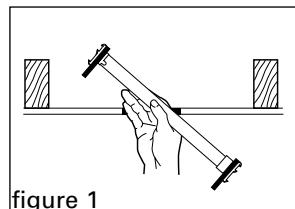

figure 1
1. Clear the installation area of insulation, wiring and existing lightweight bar hanger. Remove wire attached to the side of the joist where Saf-T-Brace® will attach. Insert Saf-T-Brace® through the sheetrock and onto the ceiling, centering square tube over the hole in the sheetrock (figure 1).